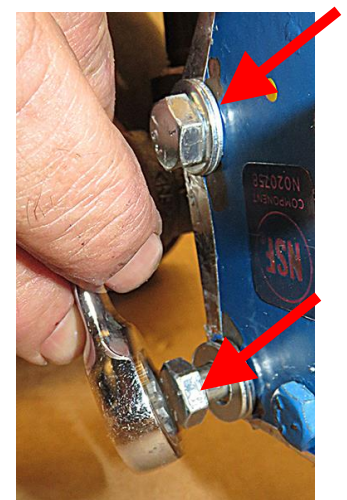

Figure 56
55. Reinsert the two (2) bolts into the filter pump and adding two (2) 8090104 washers to each bolt before tightening. Torque to 15 foot lbs. Do **NOT** overtighten (see Figure 56).